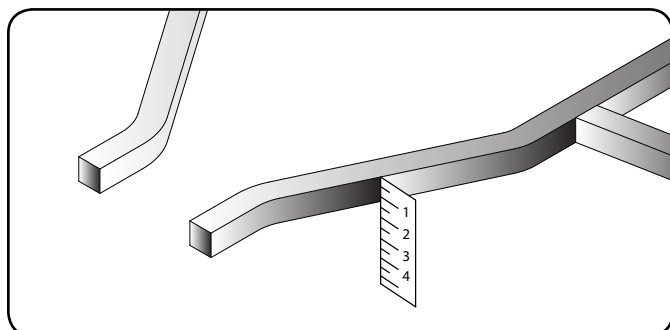

Figure 23 - Frame Measurement
1. Measure the thickness of your tube frame and skid plate (if installed), see Figure 23. Then cut the provided rubber spacers to a $\frac{1}{4}$ in. (6.4 mm) longer than the thickness of the tube frame.